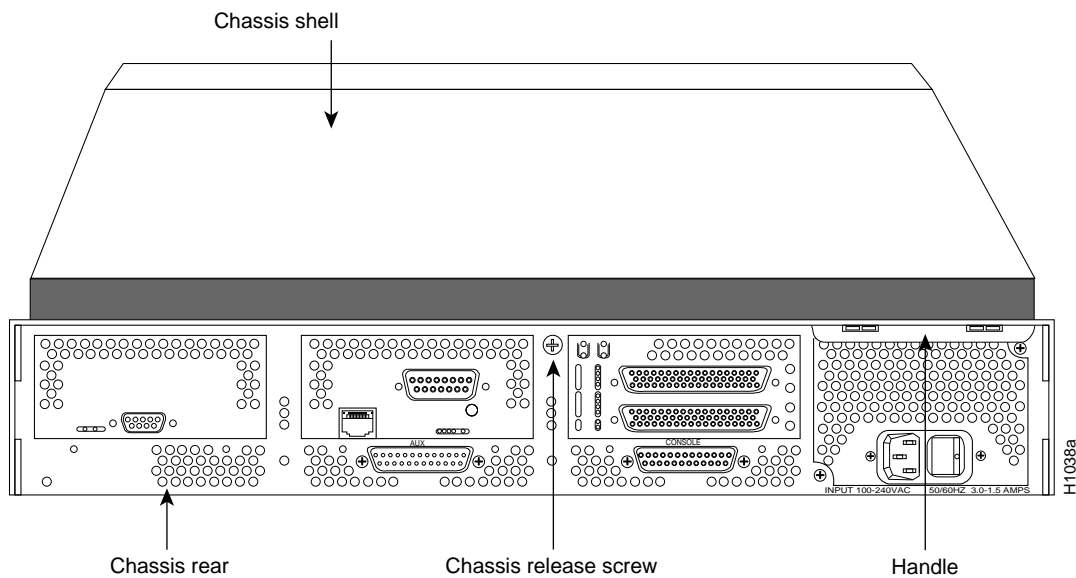

Figure 1 Chassis Component Tray Removal
Step 1: Loosen the (nonremovable) screw in the back of the chassis, labeled *Chassis release screw* in Figure 1.
Step 2: Push on the back of the tray while at the same time pressing on the chassis release screw (as shown in Figure 1) with the thumb of your right hand.
- Step 6:** Push on the back of the tray while at the same time pressing on the chassis release screw (shown in Figure 1) with the thumb of your right hand.